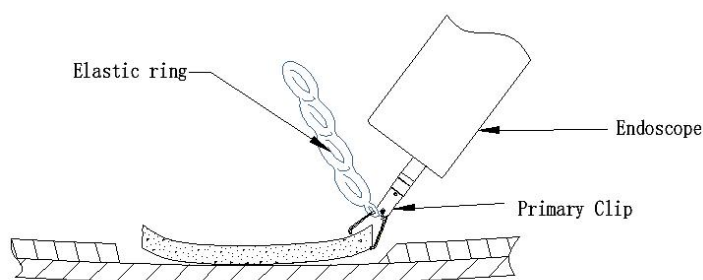

Fig.4
7. When satisfied with clip positioning, close the clip onto the tissue by pulling the finger rings back until tactile resistance is felt in the handle. The clip position may now be assessed prior to deployment (Fig.4). If clip is not in desired position, gently reopen the finger rings and repositioned the device.